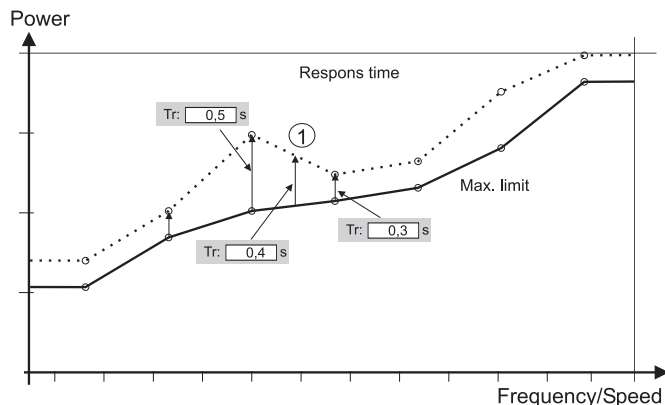

Figure 4.10 Changing the response time
Each setpoint may be assigned its own response time different from the general setting. Between each setpoint the response time will be linearly interpolated (1) - see figure 4.10.